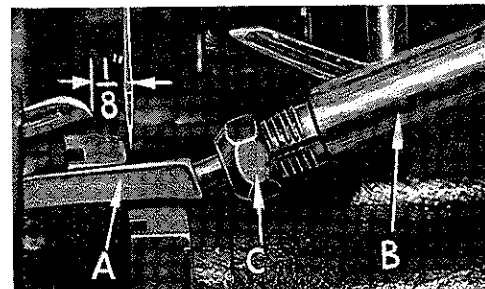

Fig. 5
At this point, insert lower looper (A, Fig. 5) into bar (B). With lower looper at left end of its stroke, set looper point $1/8$ inch from center of needle (Fig. 5), using looper gauge No. 21225- $1/8$ for Styles 39500 FN, FV, GP and GU. Set looper point $3/32$ inch from center of needle (Fig. 5), using looper gauge No. 21225- $3/32$ for Styles 39500 FX and JX. Do not have lower looper deflecting needle. Tighten nut (C).